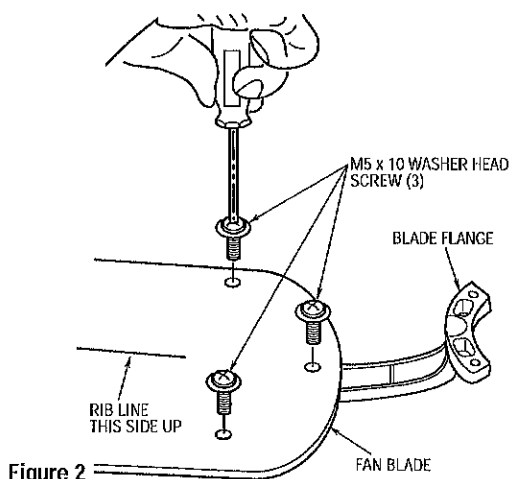

Figure 2
IMPORTANT: THE SIDE OF THE FAN BLADE HAVING THE RIB LINE MUST BE FACING UPWARDS AS SHOWN IN FIGURE 2.
- ☐ 7. Mount blade flanges to fan blades using three M5 x 10 washer head screws per blade (Figure 2).